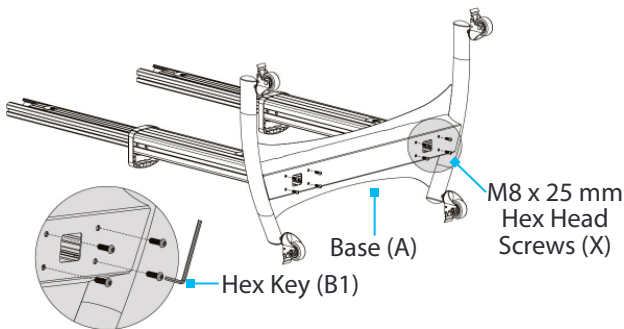
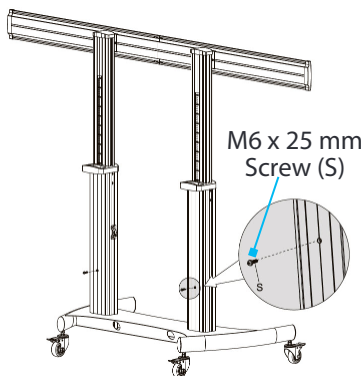

Figure 4
Figure 5
10. Tilt the entire **Assembly** onto its side to gain access to the bottom of the **Base (A)**. (Figure 4)
11. Insert four **M8 x 25 mm Hex Head Screws (X)** through the **Base (A)** and into the **Left Column (E)**.
12. Tighten all four **M8 x 25 mm Hex Head Screws (X)**, using the **Hex Key (B1)**.
13. Repeat steps 11-12 for the **Right Column (F)**.
15. Insert one **M6 x 25 mm Hex Head Screw (S)** into the back of the **Left Column (E)**. (Figure 5)
**Warning!** Do not skip this step. The **M6 x 25 mm Screws (E)** serve as important safety stops.
16. Tighten the **M6 x 25 mm Screw (E)**, using a **Phillips Head Screwdriver**.
17. Repeat steps 15-16 for the **Right Column (F)**.